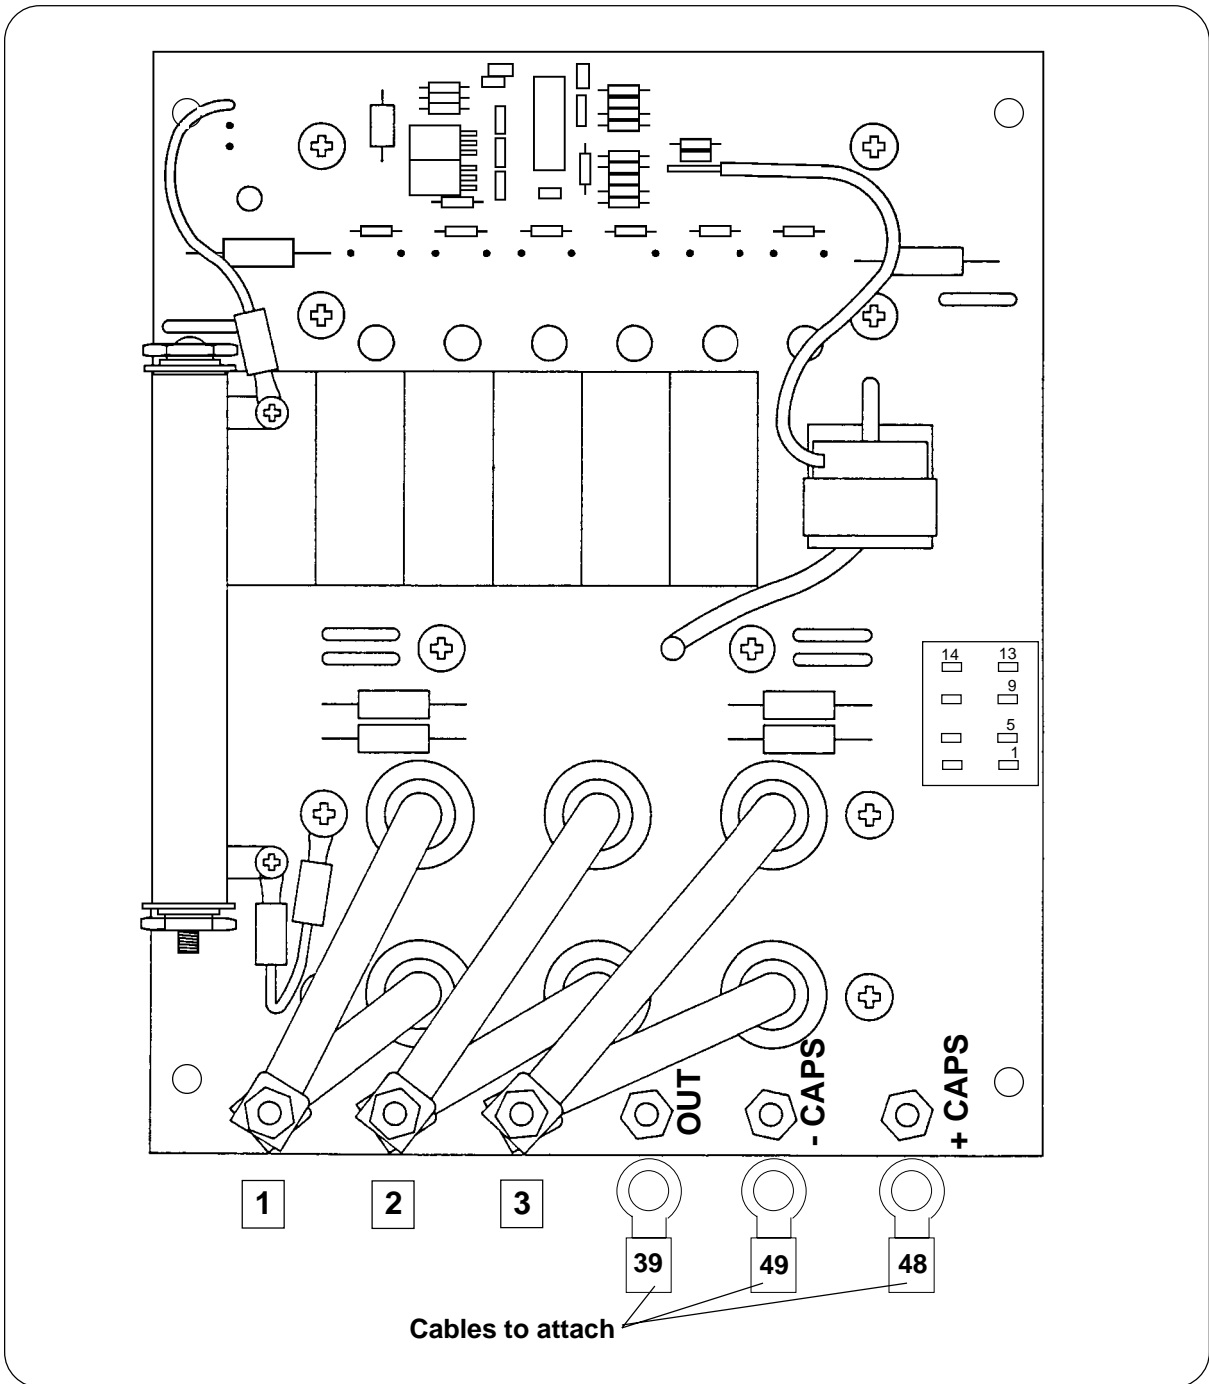

Figure 3 #029631 CH50 Chopper to Install
5. Attach the cables labeled **48**, **49**, and **39** to the chopper as follows (Refer to Figure 3):
To remove the #041106 EWS chopper and install the #029678 CH50 chopper assembly, refer to Figures 3, 4 and 5 and proceed as follows: